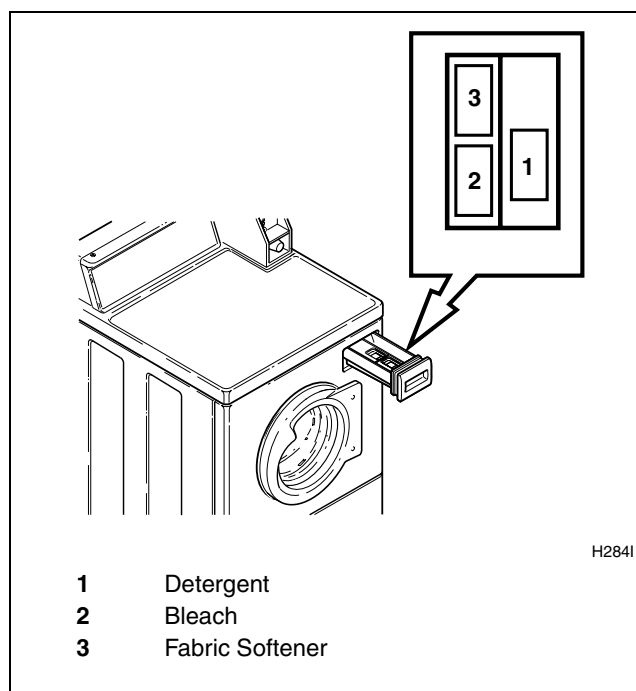

Figure 23
Open dispenser drawer. Measure and add low sudsing detergent (1), bleach (2) and fabric softener (3) to the dispenser drawer (refer to *Figure 23*). Close dispenser drawer.